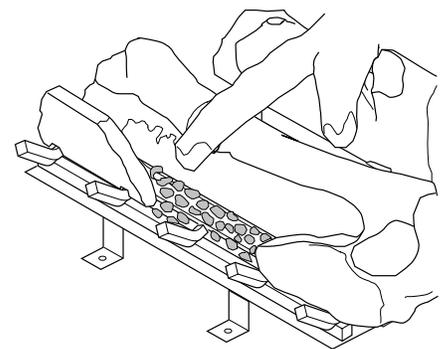

Figure 61 - Placing Ember Material on Burner
6. Pull ember material apart into pieces no larger than a dime. Place these pieces loosely and sparingly directly onto the exposed section of the front burner and along the space between the burner and grate prongs (see Figure 61). This will create the glowing ember appearance as the flame touches the ember material. Do not block air slots by using too much ember material in one area. It is not necessary to use all of the ember material provided.